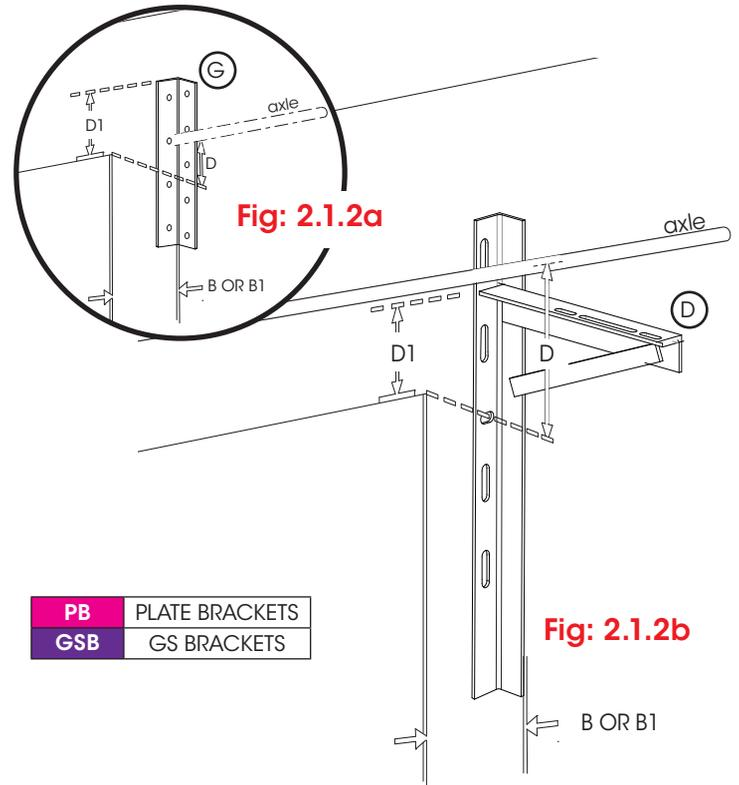

Fig: 2.2.2
- Using a laser level or water level, mark the position on the wall for the height D1 from the first bracket for the second bracket as per **Fig 2.2.2**.